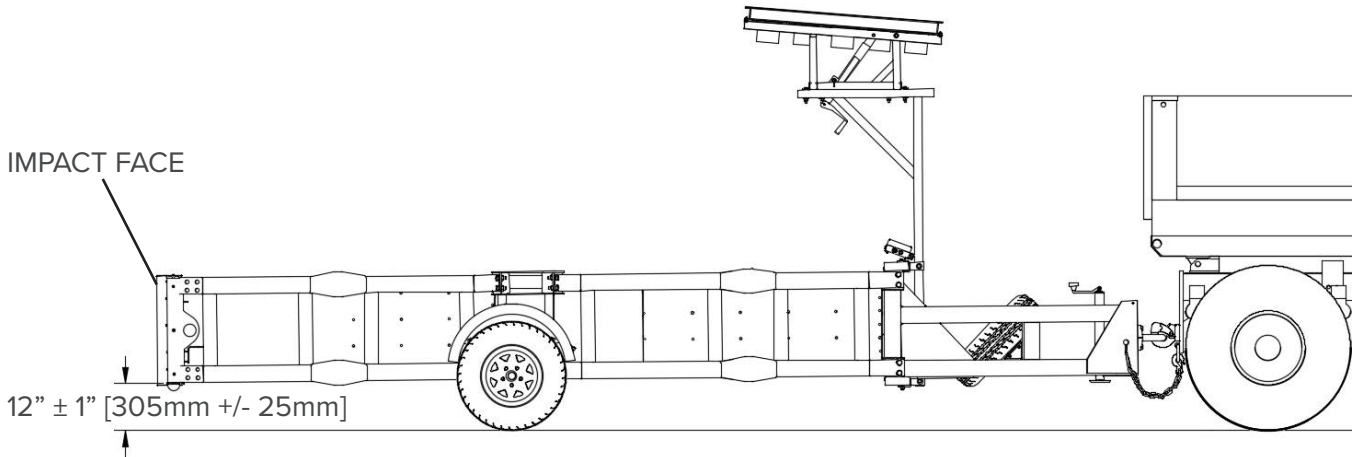

Figure 4
2. The TMA should be securely fastened to the truck. On level ground, the bottom of the Impact Face should be $12'' \pm 1''$ [305mm $\pm$ 25mm] from the ground (Figure 4).